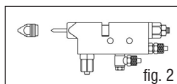

fig. 2
- 4) Unscrew the nozzle with a 9 or a 10-key (see Fig. 2)